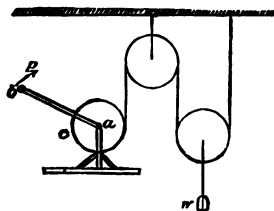

FIG. 34.—PULLEY AND WINDLASS.
5. In the combination of pulley and windlass of Fig. 34, ab is 2 feet, ac 6 inches. A power of 30 pounds is applied at b : how much weight can be lifted?